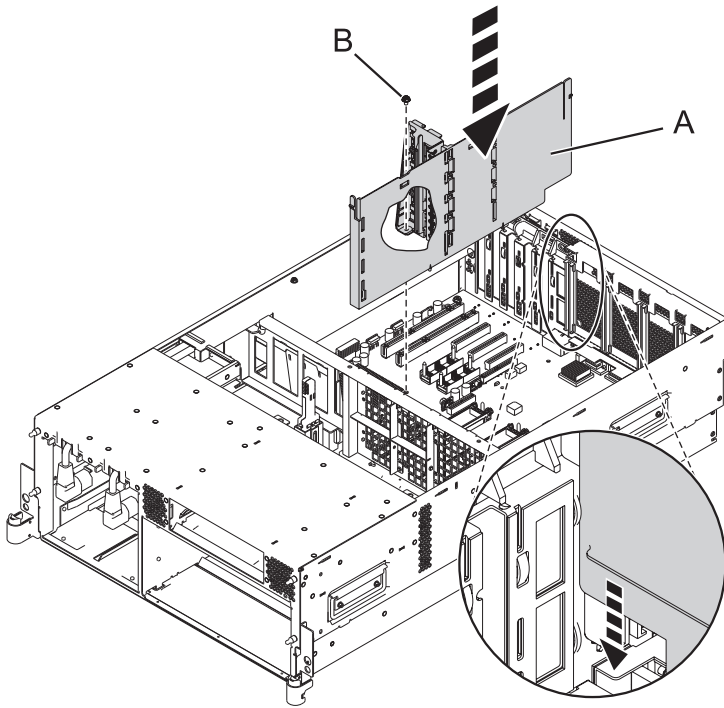

Figure 13. Installing the middle divider
- a. Align the middle system divider (**A**) between the front and rear processor supports. See Figure 13 on page 18.